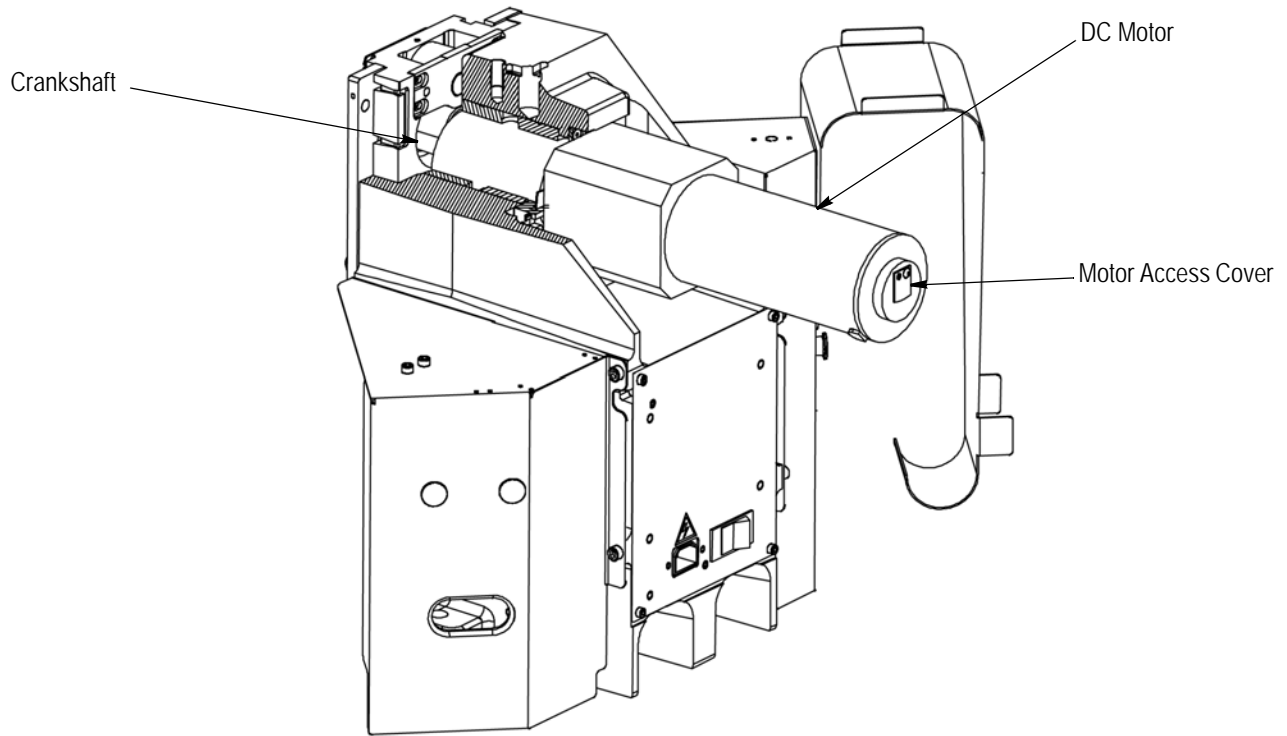

Figure 3
1. The **motor group** includes a dc motor which drives a crankshaft. The motor is activated each cycle and rotates the crankshaft one full revolution. A motor access cover, located on the end of the motor, covers a hex key which allows the motor to be cycled manually. See Figure 3.